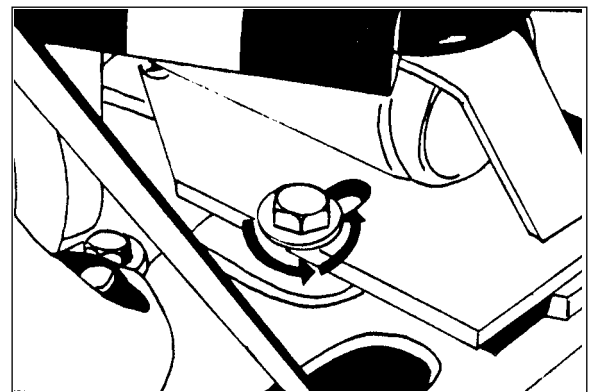

Figure 2
5. Loosen the motor bolt. Using the  $\frac{3}{4}$ " wrench, turn the motor bolt counterclockwise. See figure 2.